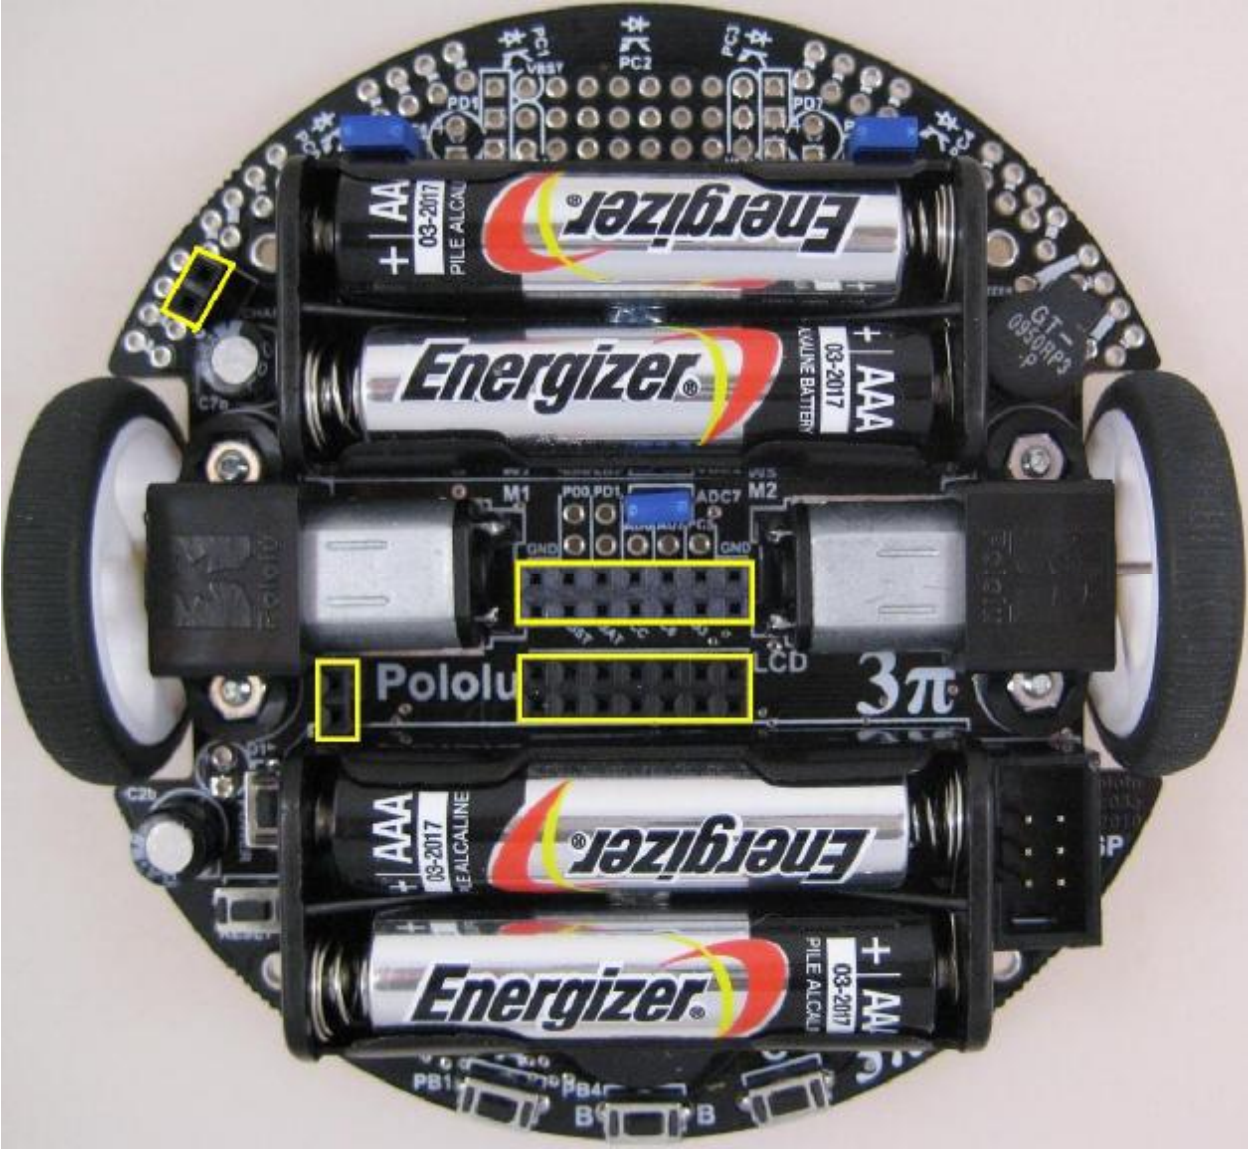

Figure 3
- Insert the Zigbee wireless expansion board BRD-EXP-PLL3PI-ZB on to the robot's female expansion connectors (in yellow rectangles) in Figure 3 below: